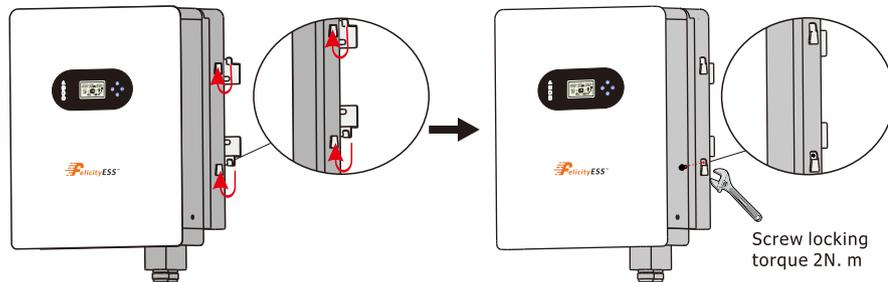

Figure 3.4-2 Installing an Inverter
Step 2. Lift the inverter to suspend it on the installation bracket, We can prevent theft by locking. See Figure 3.4-2.